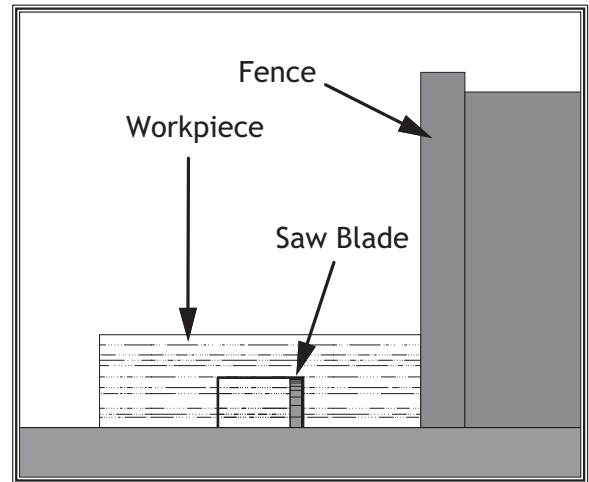

Figure 46. First cut when making a dado with a standard ripping blade.
5. If dadoing the length of a workpiece, align the blade to cut one of the dado sides as shown in **Figure 46**.